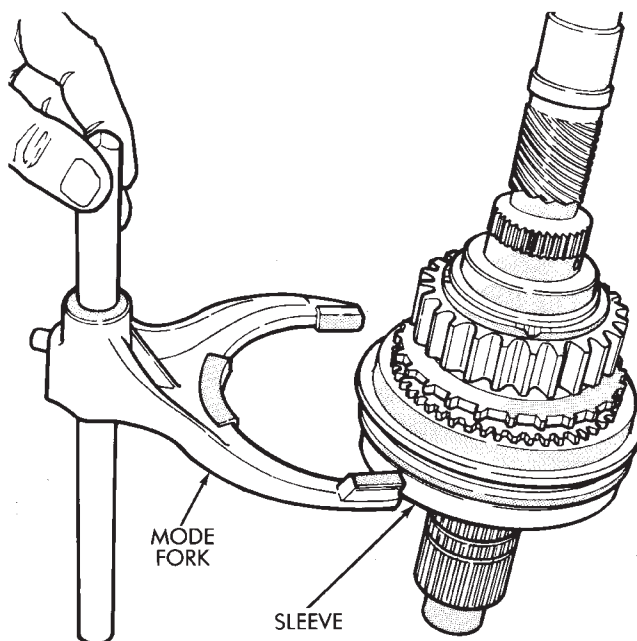

Fig. 12 Removing Mode Fork And Rail From Sleeve
(21) Remove mode fork and shift rail from synchro sleeve (Fig. 12).